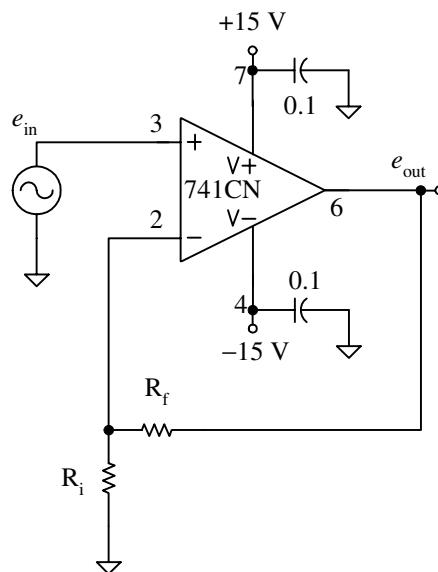

Figure 1-7 Noninverting amplifier
To increase the gain, you must reduce the amount of negative feedback. This is done by placing a voltage divider between the output and the inverting input. Look at Figure 1-7. The voltage divider, R_f and R_i , divide e_{out} , producing the feedback voltage, v_f .
There is a second, more powerful, way to analyze the operation of the noninverting amplifier of Figure 1-7.
- a. Use the schematic in Figure 1-7. Pick $R_f = 100 \text{ k}\Omega$